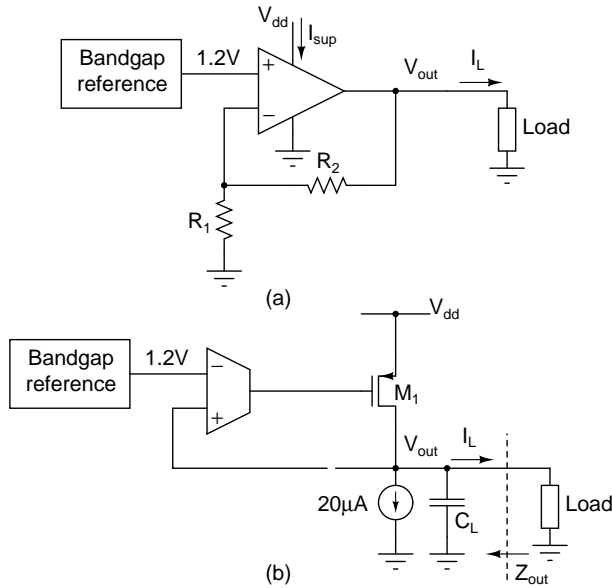

Figure 3: Low dropout regulator
3. **Low dropout regulator (LDO):** A voltage regulator is nothing but a noninverting amplifier whose input is the bandgap voltage from a reference. In Fig. 3(a), the output voltage is $(R_2/R_1)V_{bg}$. By
Fig. 3(b) shows a “pass transistor” M_1 enclosed in a feedback loop. For simplicity, a unity gain case is shown. M_1 should have a high enough W/L to remain in saturation with the desired dropout and the highest output current. Miller compensation around M_1 is usually not used because it severely compromises power supply rejection (Incremental voltage gain from V_{dd} to the output voltage).